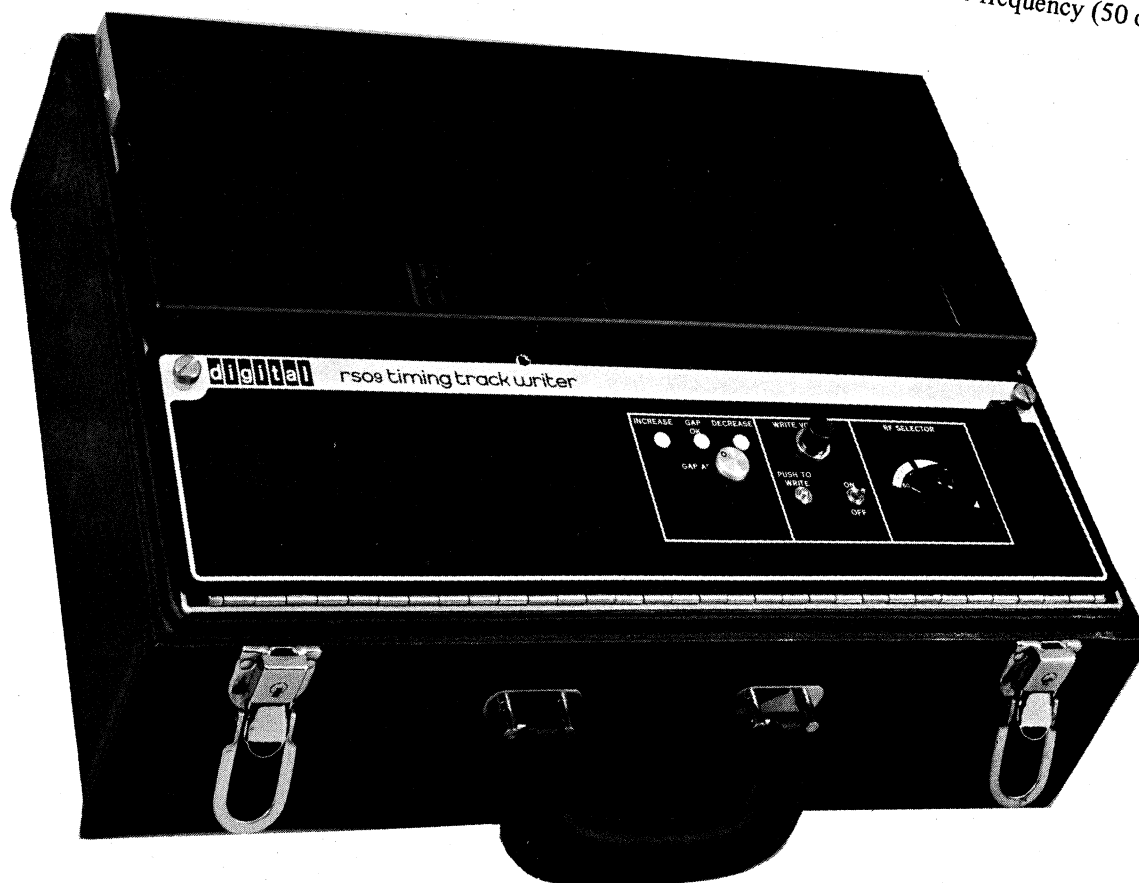

Figure A-4 RS09 Timing Track Writer (RS09-TA)
3. Remove the timing track cable from slot A01 of the RS09 electronics and insert it into the module connector on the RS09 Timing Track Writer (Figure A-4).
Ensure that the NORMAL/MAINT toggle switch (Figure A-4) is set to the NORMAL position prior to setting the ON/OFF toggle switch to ON. Failure to do so may damage the disk drive timing track head.